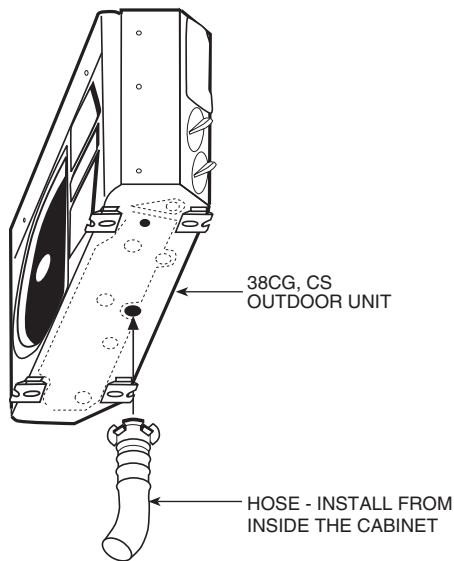

Fig. 3 — 38BNB,BNE Unit Drainage Connection
- Condensate can form in the condenser in outdoor units during heating mode. A drainage hose can be installed to remove condensate. See Fig. 3.